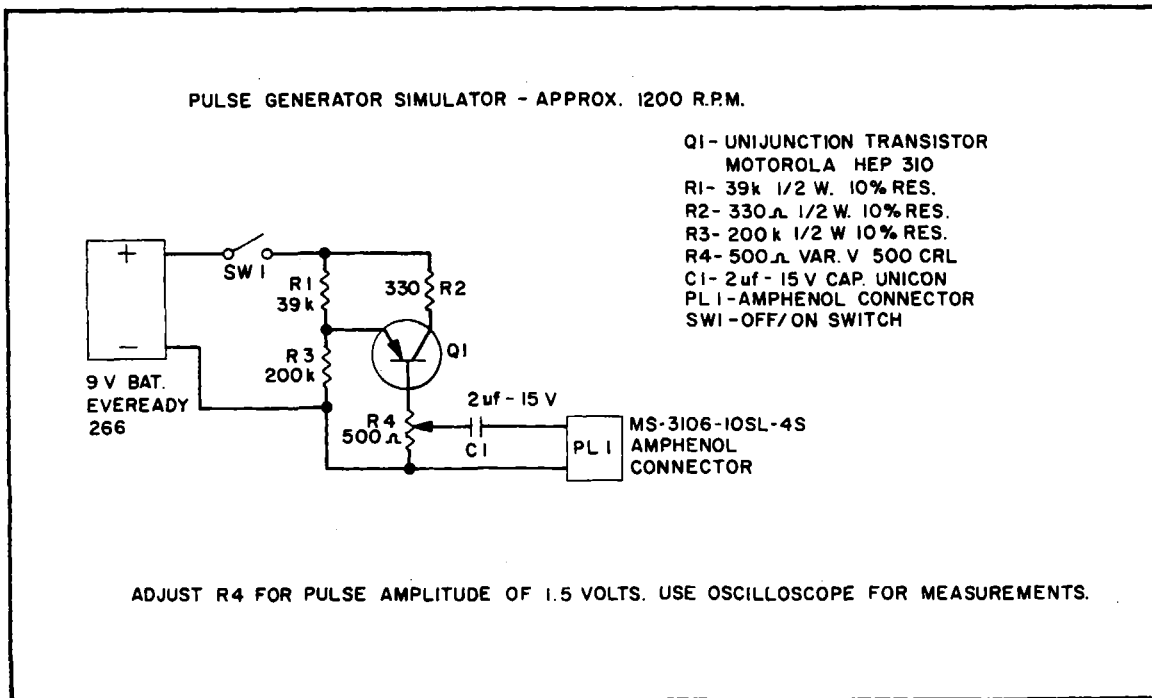

Figure 14-51. Pulse Generator Simulator
- c. Reconnect plug PL3 and visually observe if both glow lamps light with the master engine turning at near cruising RPM. A pulse generator simulator may be used according to paragraph 14-120 and Figure 14-51.